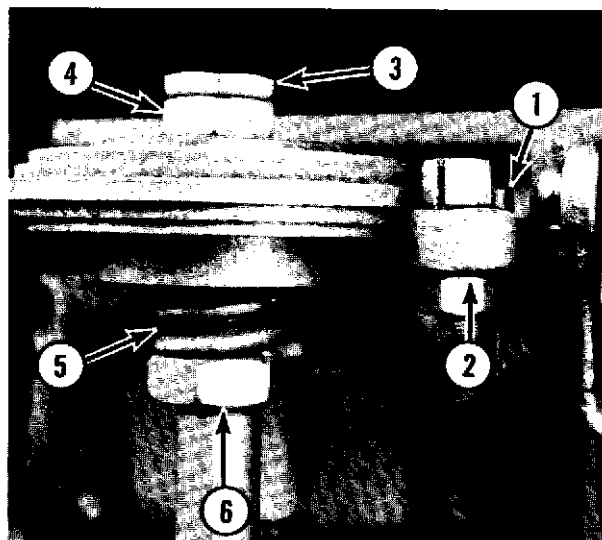

Fig. 7-10
The engaging plate (1, Fig. 7-10) should contact the lower portion of the brake arm stop (2, Fig. 7-10) with the clutch disengaged.
- (1) Remove the palnut (3, Fig. 7-10).
- (2) Adjust the position of the engaging plate by tightening or loosening the upper jam nut (4, Fig. 7-10).
- (3) When adjustment is complete, reinstall the palnut.
The braking action is controlled by the compression of the spring (5, Fig. 7-10) located under the brake pressure plate and the lower hex nut.
- (1) Tighten or loosen the lower hex nut (6, Fig. 7-10) to attain the proper braking action.